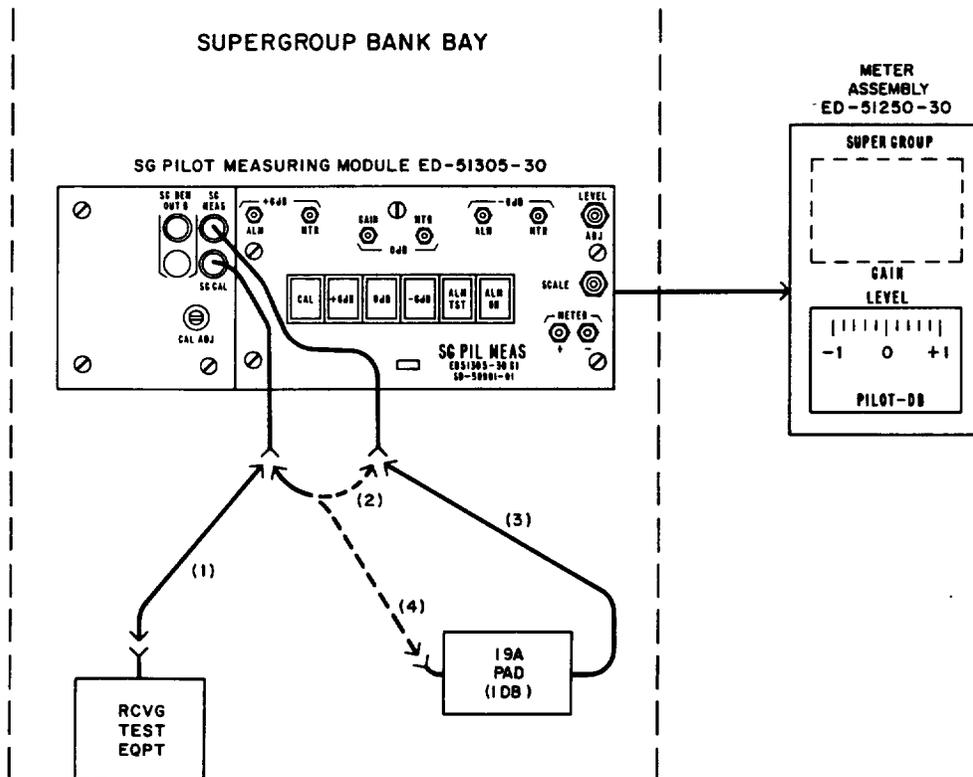

Fig. 1—315.92 kHz Pilot Measuring Circuit Calibration For J68918 Scanner
- 2 Connect the RTE to the SG CAL jack [patch (1), Fig. 1].
- 5 Remove patch (1), Fig. 1.
- 6 Remove the patch plug between the SG DEM OUT B and SG MEAS jacks and insert this patch plug between the SG CAL and SG MEAS jacks. [patch (2), Fig. 1].
10	(a) Connect the 1-dB pad between the SG CAL and SG MEAS jack [patches (3) and (4), Fig. 1].